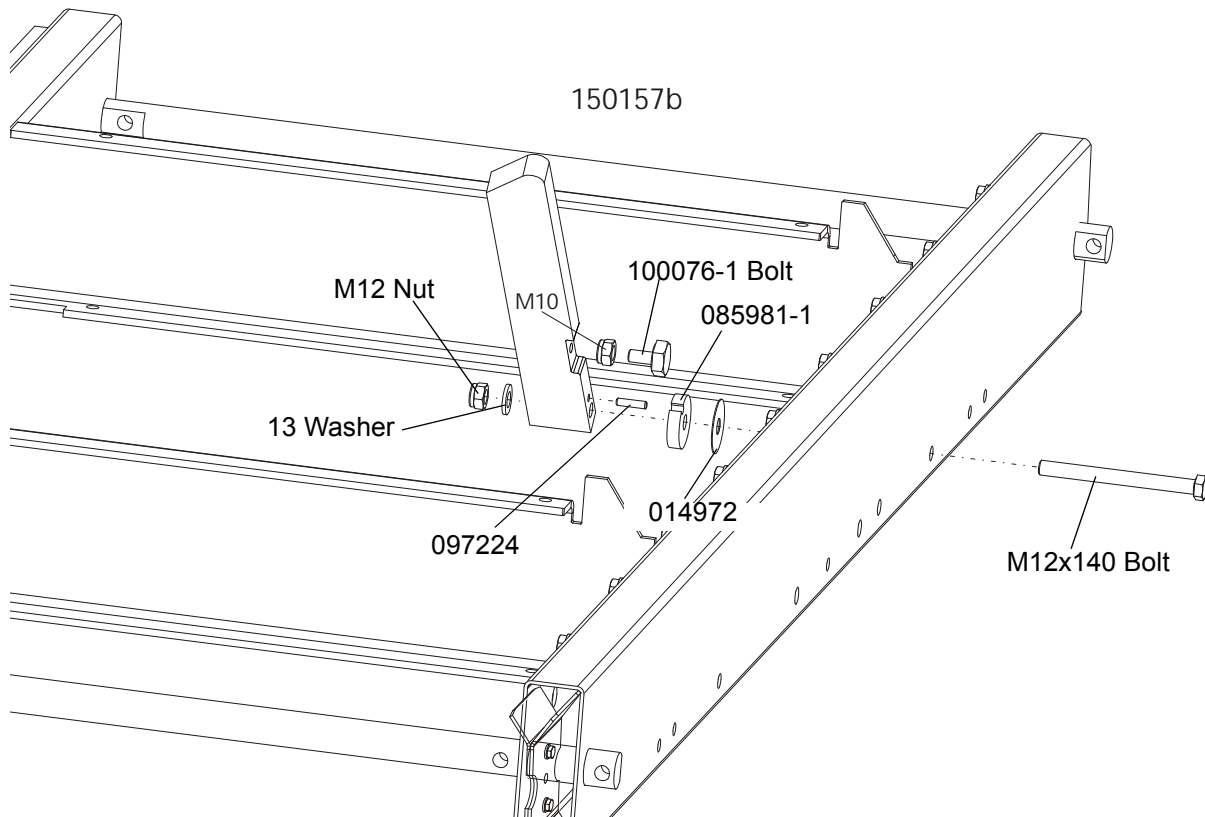

FIG. 2-10
8. Install the log side supports as shown in Figure 2-10. Tighten the nuts so that the side supports can be moved with little resistance. See Section 6.11.
See Figure 2-10.